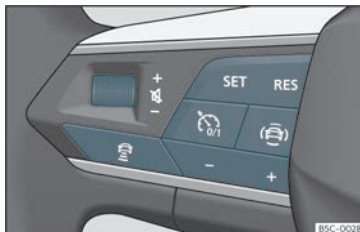

Fig. 170 On the multifunction steering wheel: buttons to operate the ACC
Your vehicle has ACC if it has a configuration menu in the infotainment system>>> page 90 and if it has the ACC function buttons on the multifunction steering wheel>>> **Fig. 170** .
»» **Fig. 170.**
To program the speed, press the + or - >>> **Fig. 170** buttons to the desired speed. The speed is adjusted at intervals of 10 km/h (5 mph).
- Press the button  and then the button + or ->>> **Fig. 170**.